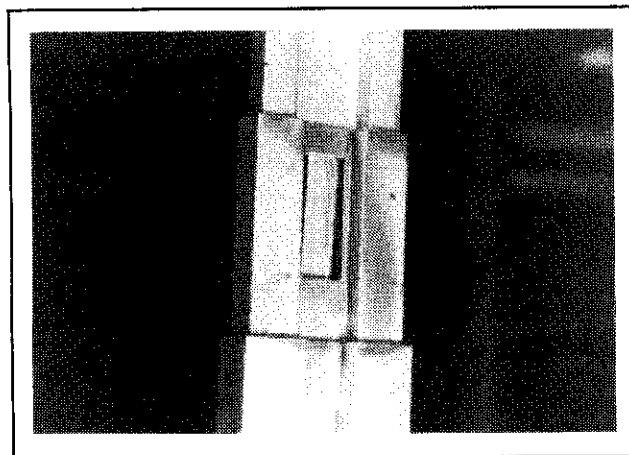

Figure 10. Stop Tangs
b. Depress the tang which holds the middle lift post in place. Push down on the middle extrusion (figure 10). This will expose the cable so that the cable can be removed.
f. Install the new push spring and cable assembly into the slot in the bottom chain track extrusion. Feed bolt end of cable up chain track (it may require some force to get past radius) and position follower in track. Attach the cable to the corner post by screwing the bolt into the upper post. Reconnect follower to the chain (figure 10).
g. Raise the middle post extrusion so that the tang is engaged (figure 10).